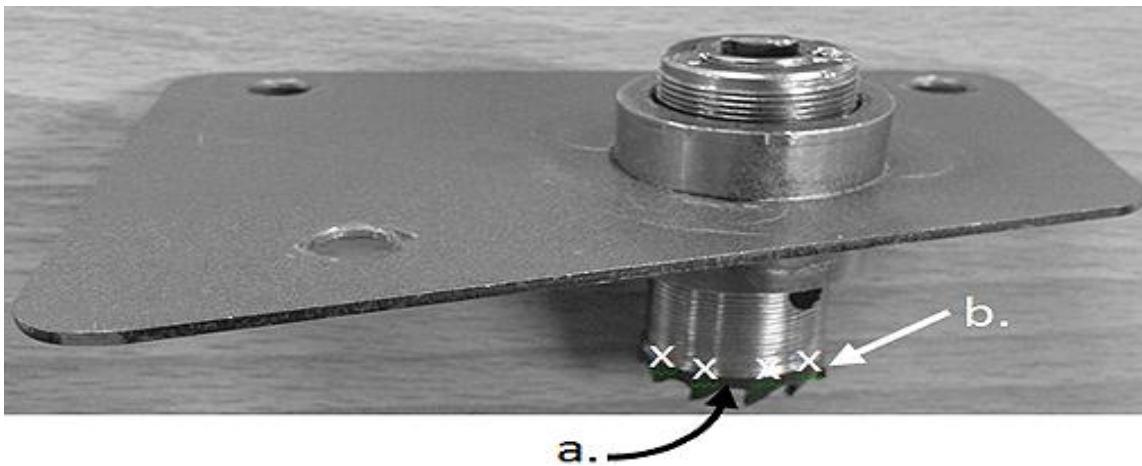

Figure 7 – Areas of Hole Saw to Lubricate
- outside of the toothed area of the precision hole saw as indicated in Figure 7.